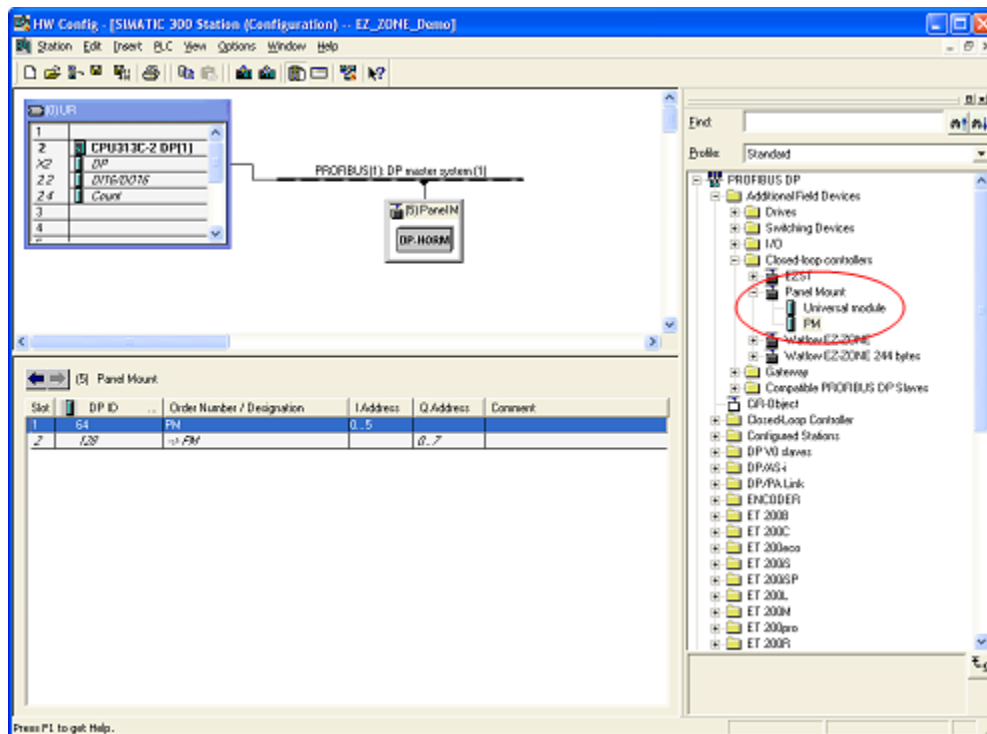

Figure 3b: Location of GSD File
4. Once a GSD file is installed, it will appear under PROFIBUS DP/Additional Field Devices/Closed-loop controllers in the GSD library (Figure 3b)